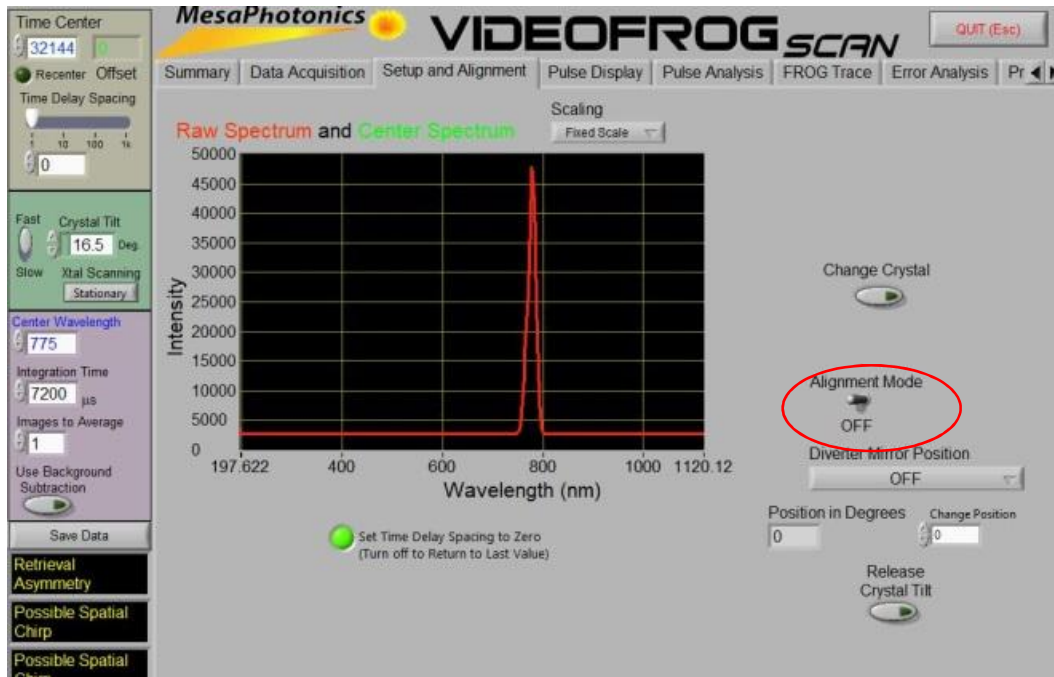

Figure 22. Clicking Alignment Mode to ON turns off data acquisition and pops up an image viewer for the beam cameras.
8. Start the Alignment mode by clicking on the Alignment Mode switch in the Setup and Alignment mode Panel (Figure 22).